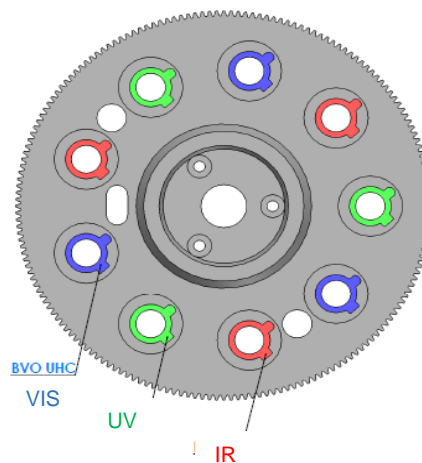

Figure 3 : POLARISED type
- **BRDF:** it uses 380, 440, 550, 675, 740, 870, 937, 1020 and 1640 nm filters (Fig.3).